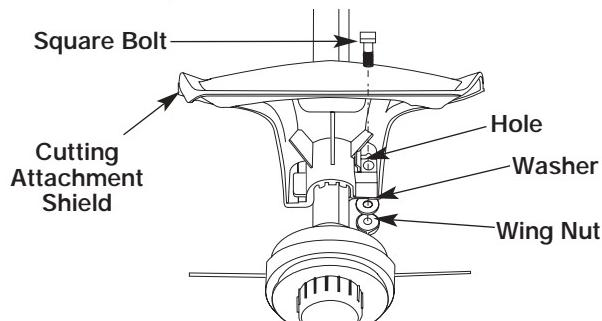

Figure 5
3. Put the washer on the bolt, then screw the wing nut onto the bolt and tighten. Figure 5 shows the installation process from underneath the unit.